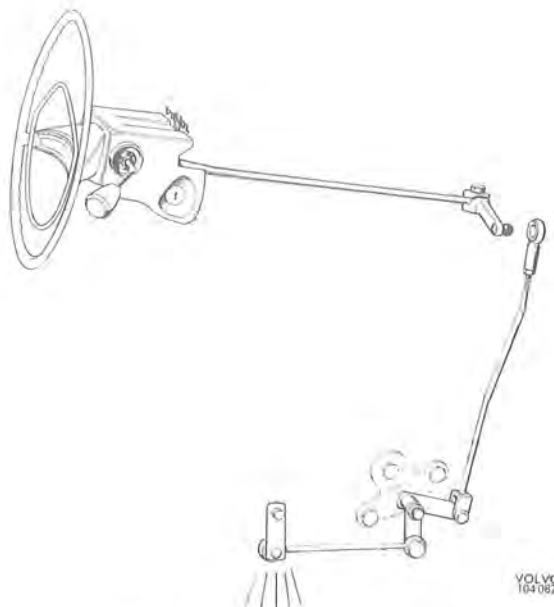

Fig. 4-69. Adjusting selector controls
1. Disconnect the pull rod from the lever on the selector shaft. Set the selector lever to "N", see Fig. 4-69.